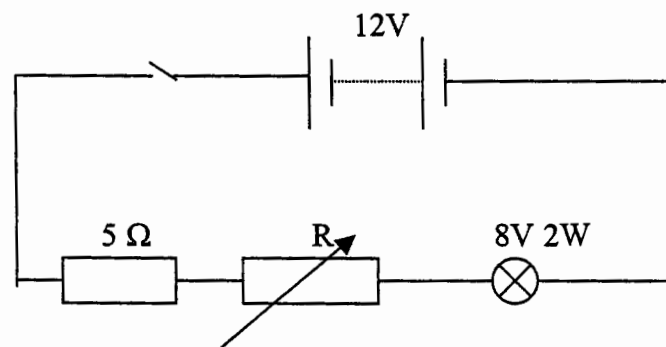

Figure 2 Lighting circuit for a tractor dashboard
c) Figure 2 represents the circuit for dashboard light. The 12 V battery supplies a current through the 5Ω -fuse, and then the bulb marked 8V 2W, which is connected in series with a variable resistor, R. The variable resistor is used to adjust the intensity of light on the dashboard. If the bulb is lighting brightly at its rating, calculate: